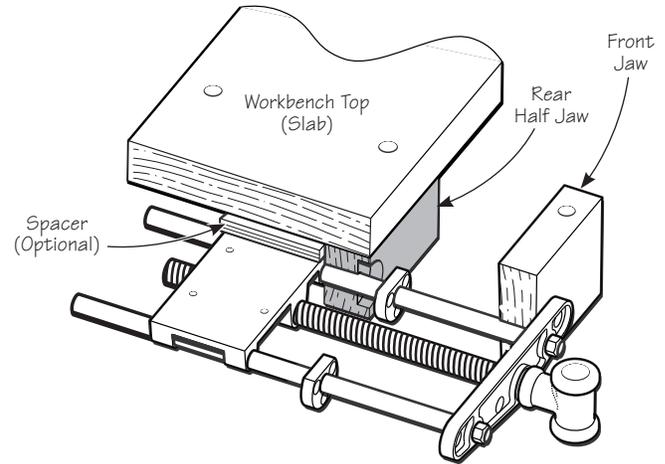
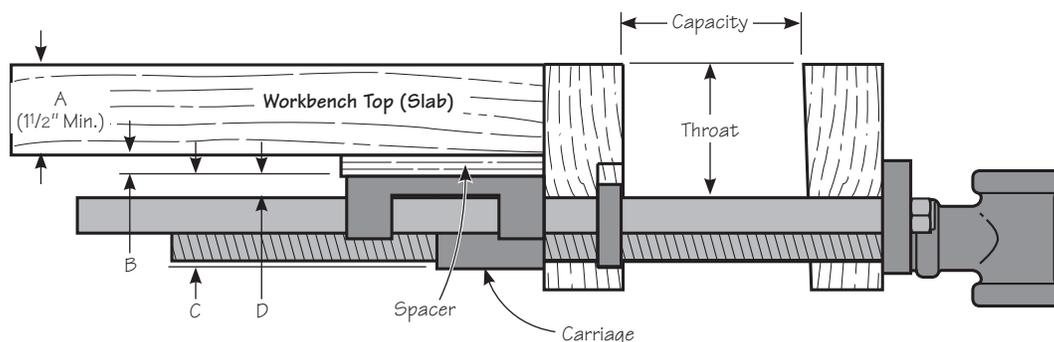

Figure 2: Bench with rear *half* jaw and no skirt.
Figure 5: Vise capacity and throat.
2	Min. 1 5/8" thick close-grained hardwood (e.g., maple, birch) 3 1/4" wide* by 12" to 15" long *One piece may be 1 3/4" min. if configured as shown in Figure 2.
2	Min. 1 5/8" thick close-grained hardwood (e.g., maple, birch) 3 3/4" min. wide* by 18" long (or longer if using as a full-width end vise) *One piece may be 2 1/4" min. if configured as shown in Figure 2.
Figures 2, 3 and 4 show the three most common configurations for mounting the vise to your bench. The choice of which you should use is largely dictated by how your existing bench is made.
3*: This configuration is for a bench that does **not** have a skirt. By making the rear jaw a single continuous piece over its entire height, the possibility of the rear half jaw (in **Figure 2**) shifting when clamping an object is eliminated. The disadvantage of adding a rear jaw to the edge of the bench is that clamped workpieces will be further from the edge of the work surface. If this is of concern, the rear jaw may be made the full length of the bench, in effect creating a skirt, and widening the bench in the process. The spacer is used to increase throat depth and is optional.
- To determine the minimum jaw height (or composite jaw height if your situation is as per **Figure 2**) and resultant throat depth without the use of a spacer, refer to **Figure 5** and complete **Table 1** (in pencil). As with any vise, the closer the work can be clamped to the lead screw, the less stress is placed on all its parts. However, the vise is strong enough to withstand a deeper throat. If you wish to increase the throat depth, a spacer may be added between the carriage and underside of your bench top. This will increase your throat depth accordingly. An optimum throat depth is 3" to 4". Adjust your entries until you are satisfied with the throat depth and jaw height.
Note: If your jaw configuration matches that of **Figure 2**, your rear **half** jaw height will be equal to the calculated jaw height less your bench top thickness.
- Mark a vertical center line on what will become the clamping face of the **rear** jaw. Place the template on the clamping face of the rear jaw, with the fold flush to the top edge and the center line on the template lining up with the center line of your jaw. Using a sharp punch, mark the centers of the three holes. (*Note: If your jaw configuration matches that of Figure 2, you will have to temporarily affix the rear half jaw to the underside of the bench before performing this operation.*) Also mark the centers for any hardware you intend to use to mount the jaw to the bench.
- Clamp the front and rear jaws together, aligned as they will be once they are fully assembled. Ensure that what will be the top and ends are flush. *Note: If your jaw configuration matches that of Figure 2, the rear half jaw will have to be offset from the top of the front jaw accordingly.* Place the jaws in a drill press and, picking up on the 1/8" pilot holes from the **rear face** of the rear jaw, bore the guide rod and the lead screw clearance holes through both pieces. The table below shows the clearance hole diameters. These diameters have been rounded off to the nearest 1/8" oversize. To reduce tear-out, support the bottom jaw with a piece of scrap.
7. Attach the rear jaw to the bench using large (#14) screws or $\frac{1}{4}$ " lag screws, additionally gluing if desired. Leave a $\frac{1}{16}$ " planing allowance by keeping it slightly proud of the top of the bench. (*Note: If your jaw configuration matches that of **Figure 2**, ensure that the clamping face of the half jaw is flush with the front edge of your bench.*)
11. Tap the **front** jaw so that the ends and top edge are flush with the rear jaw (or bench top if your jaw configuration matches that of **Figure 2**). Firmly tighten the vise. Check that the carriage is in contact with the **rear** jaw.